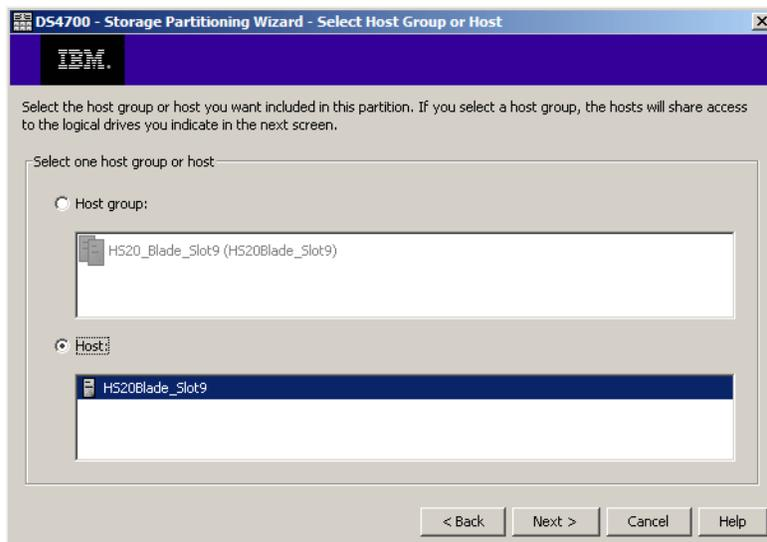

Figure 10-25 Select host
- b. Select the appropriate blade server host to map the storage partition and select **Next**, as shown in Figure 10-25.